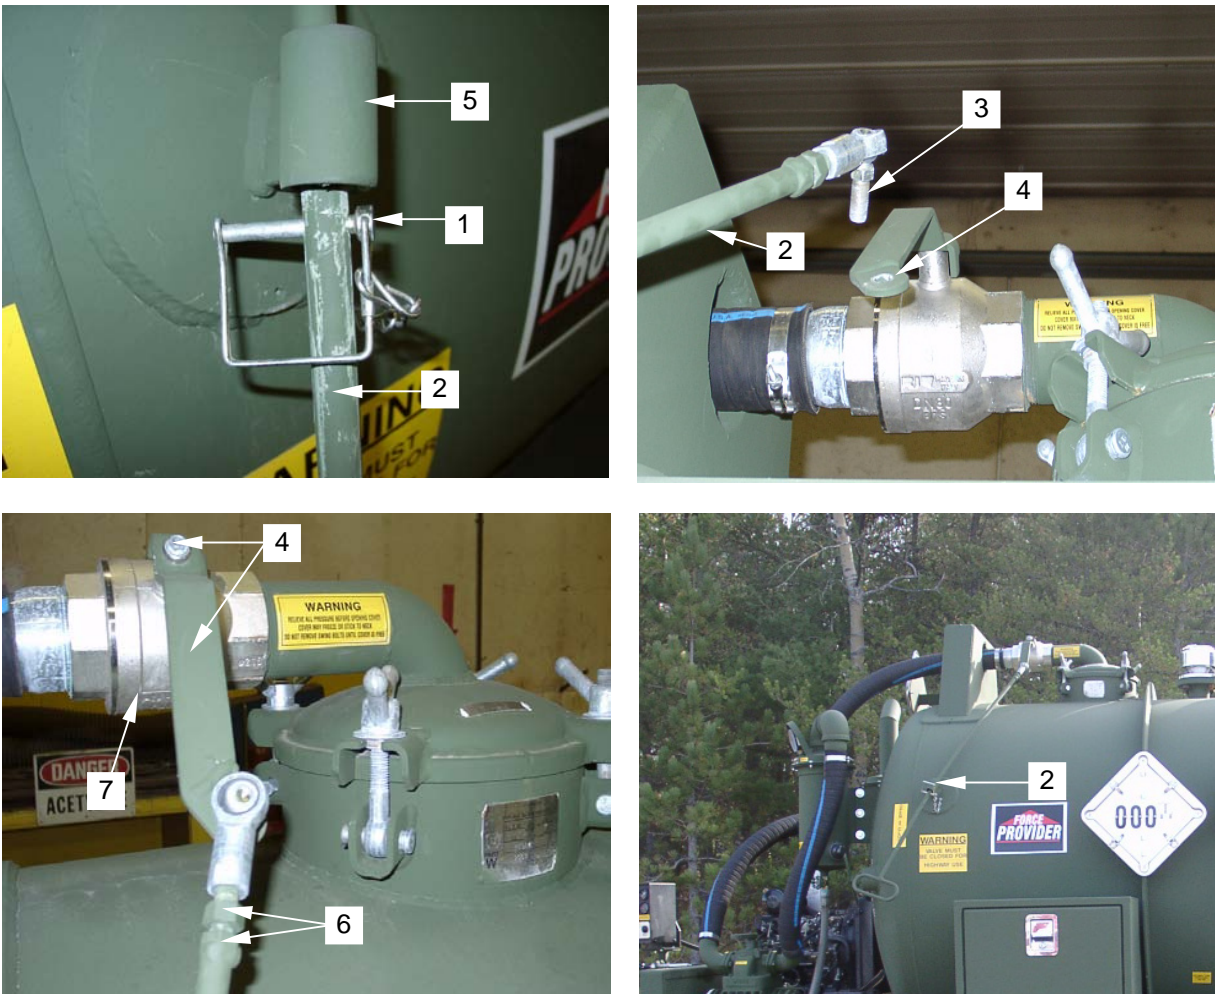

Figure 7. Replacing Isolation Valve Handle
1. Remove the pin assembly **(figure 7 item 1)** from the handle rod **(figure 7 item 2)**.
2. Disconnect the swivel assembly **(figure 7 item 3)** from isolation valve handle **(figure 7 item 4)**.
3. Remove the swivel assembly **(figure 7 item 3)** from the handle rod **(figure 7 item 2)**.
4. Remove the handle rod **(figure 7 item 2)** by pulling it through the guide **(figure 7 item 5)**.
5. Remove the lock and adjusting nut **(figure 7 item 6)** from the handle rod **(figure 7 item 2)**.
6. Remove the isolation valve handle **(figure 7 item 4)** from the valve housing **(figure 7 item 7)**.
8. Install isolation valve handle **(figure 7 item 4)** to the valve housing **(figure 7 item 7)**.
9. Fasten and tighten lock and adjusting nut **(figure 7 item 6)** to the handle rod **(figure 7 item 2)**.
10. Feed the handle rod **(figure 7 item 2)** through the guide **(figure 7 item 5)**.
11. Fasten the swivel assembly **(figure 7 item 3)** to the handle rod **(figure 7 item 2)**.
12. Connect the swivel assembly **(figure 7 item 3)** to the isolation valve handle **(figure 7 item 4)**.
13. Connect the pin assembly **(figure 7 item 1)** to the handle rod **(figure 7 item 2)**.